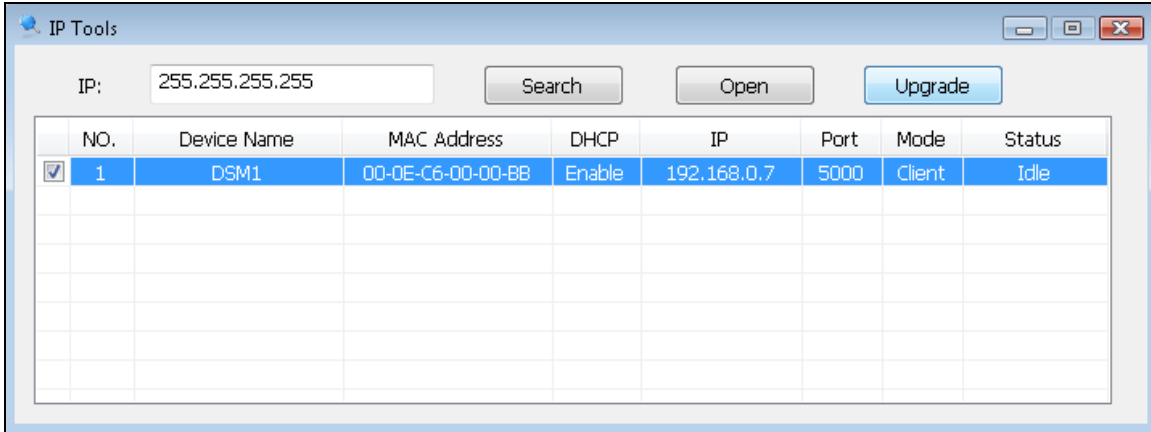

Figure 31
3. Launch the IP Tools application as referenced in Section 3.9, and locate the ObserverIP on your network. Reference Figure 31. Select the Upgrade button to begin the firmware upgrade. As shown in this figure, the IP address of the ObserverIP is 192.168.0.7. Make a note of your IP address (your results will vary).